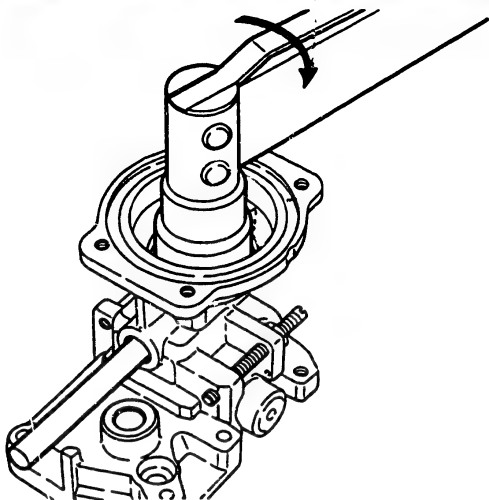

Fig. 119 Tightening the locknut
2. Tighten the locknut (67/33) to fix the screw bushing (67/31) and the lock plate (67/32) to the specified torque while using the special tool (KDEP 2617) to ensure that the screw bushing does not move from the above position. (Fig. 119)